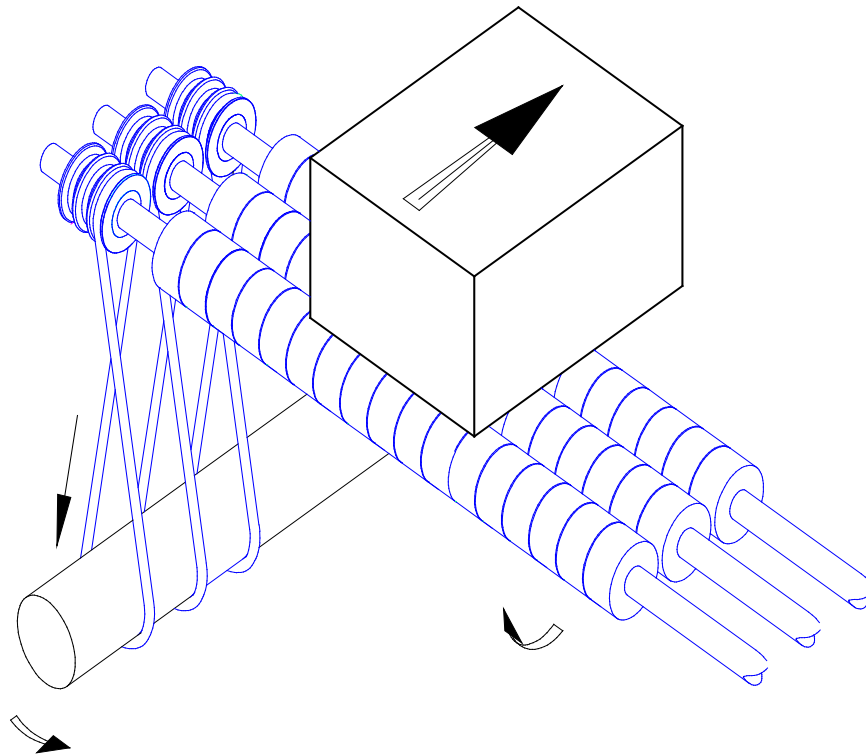

Figure 1
**Figure 1** below shows a package resting on a Slip-Torque® roller surface. The segmented rollers form a string that is mounted on a roller shaft, powered by a flexible belt by mean of a pulley. The flexible belt itself is powered by a drive shaft. When the drive shaft is powered, the rollers on the roller shafts rotate and tend to transport the package.